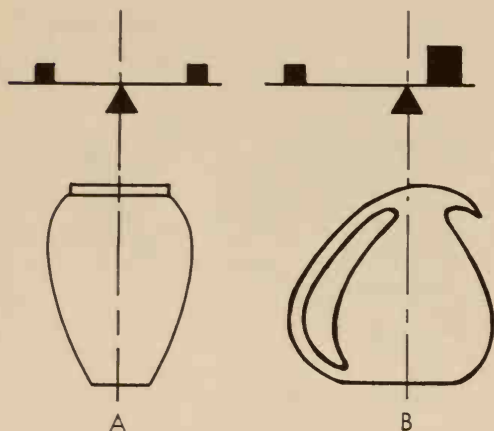

Fig. 2-5. (A) Symmetrical balance, (B) Informal balance.
parts on each side of the center are alike in shape and size, Fig. 2-5 (A).
Informal Balance--When the design is such that the balance cannot be measured or laid out with a ruler, and yet you get the feeling that it is balanced, Fig. 2-5 (B). Informal balance is usually more interesting than symmetrical balance.